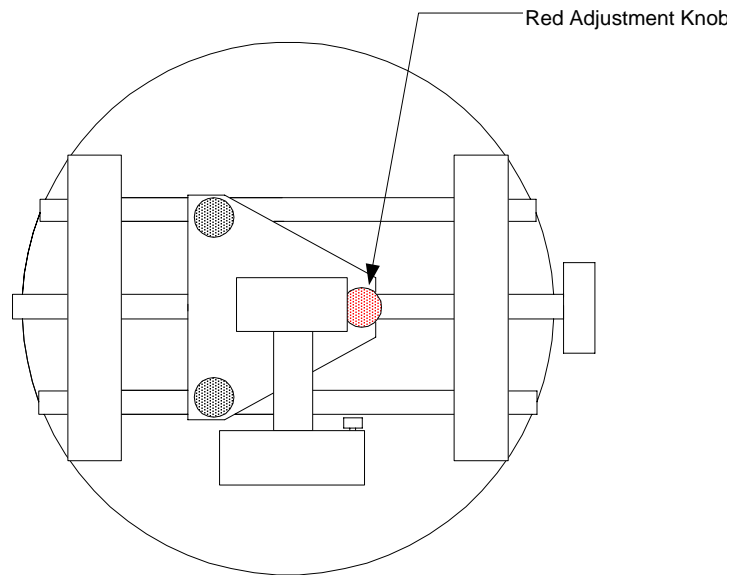

Figure 16
- 9) Rotate the wheel ½ turn, until the clamping knob is at a 3:00 o'clock position (Fig 16).